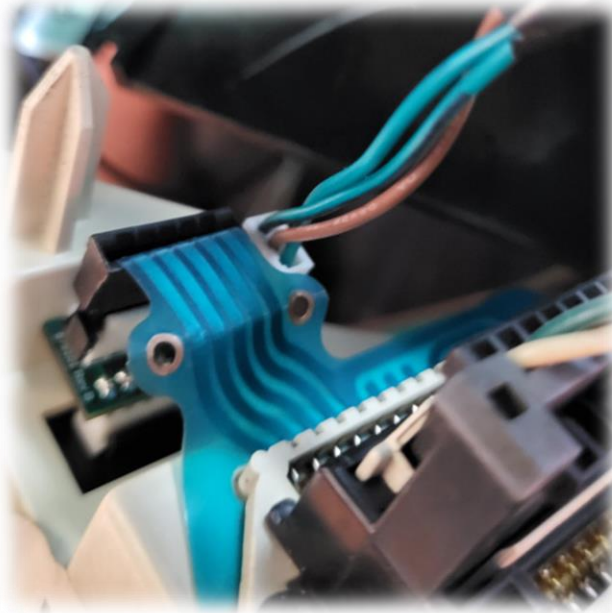

Figure 5
6. Connect 3 pin connector labelled "DIC" to the PCB circuit board that was installed on DIC. Note orientations of connector clasps to ensure connected correctly. Figure 5.